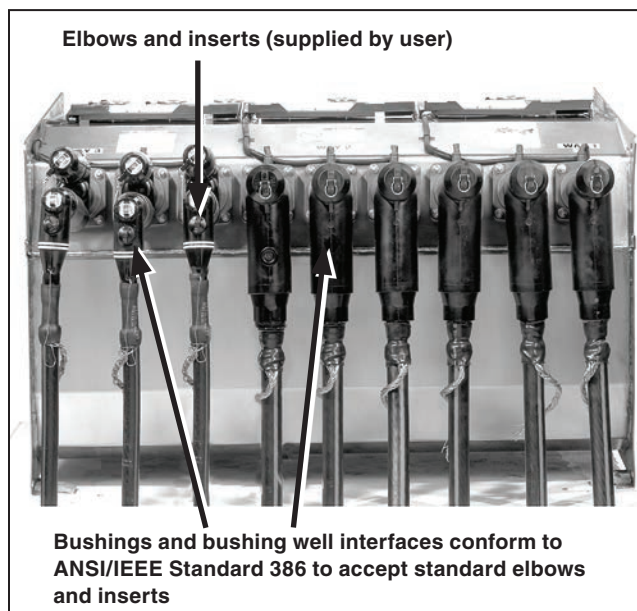

Figure 47. A Vista switchgear tank shown with user-supplied cables and elbows. (Manual unit shown for illustration purposes.)
STEP 2. Terminate the cables with elbows following the elbow manufacturer's instructions. See Figure 47.